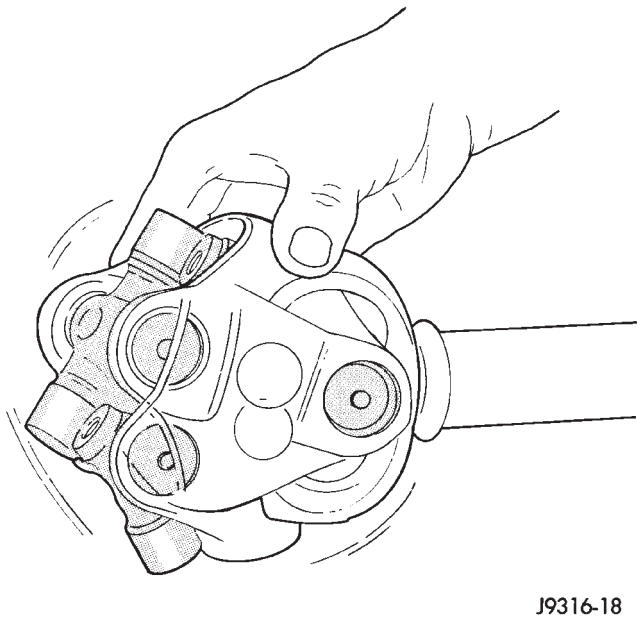

Fig. 36 Check Assembly
(13) Check for proper assembly. Flex the joint beyond center, it should snap over-center in both directions when correctly assembled (Fig. 36).
(14) Install the propeller shaft.